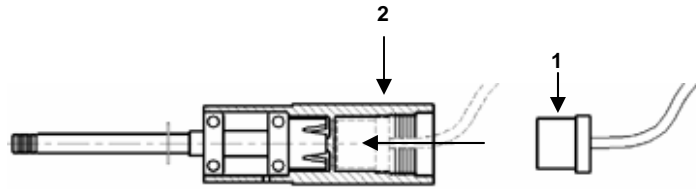

Figure 10
Step 5) Set the sensor (1) into the back of the bearing housing (2). Be sure the sensor is fully seated before re-installing the bearing assembly onto the ell. (Figure 10)